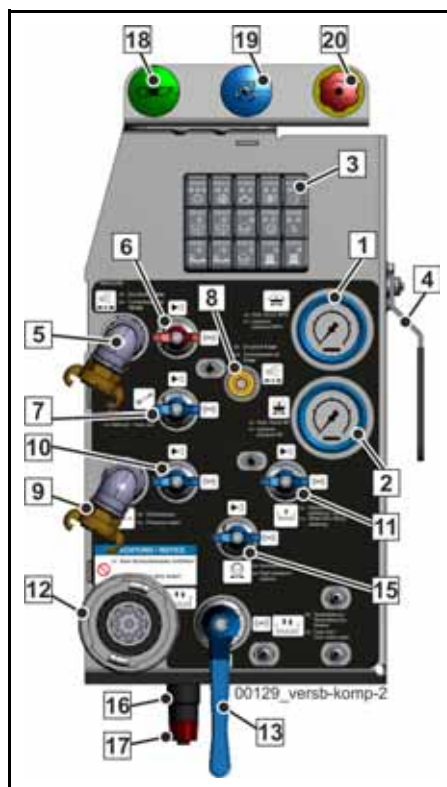

Fig. 567 Supply control
- Opening the ball valve (15) (**Fig. 567**) directs water from your machine's water case to the high-pressure pump. See information sign on the supply control.